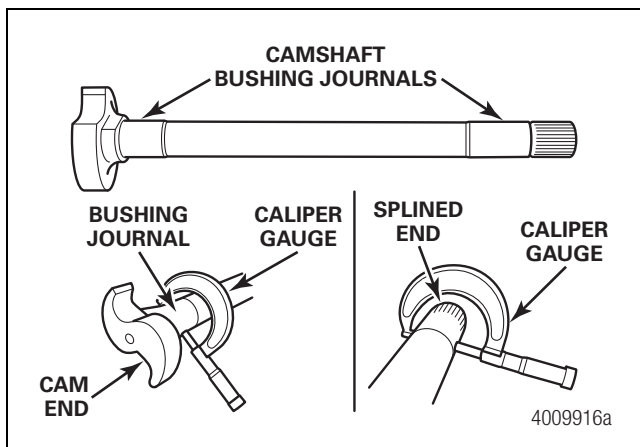

Figure 5.16
3. Use a 1-2-inch machinist's caliper to measure the bushing journals on each camshaft. Take the measurement in multiple positions on the bushing journals as the camshaft and bushing may wear unevenly. Camshaft journal diameter must be no less than 1.490-inches (37.846 mm). Figure 5.16.